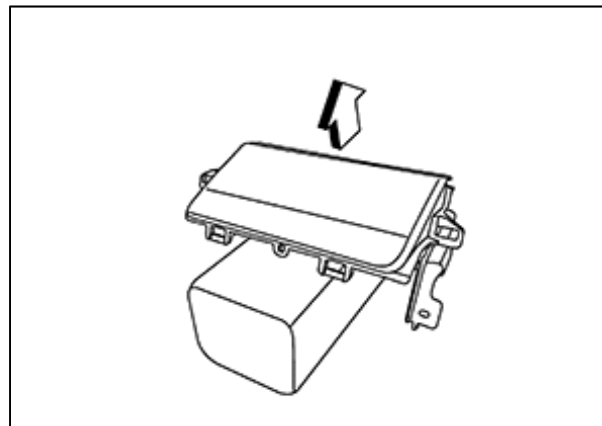

Figure 129
- Always place an airbag module with the deploying direction facing upward (Figure 129).